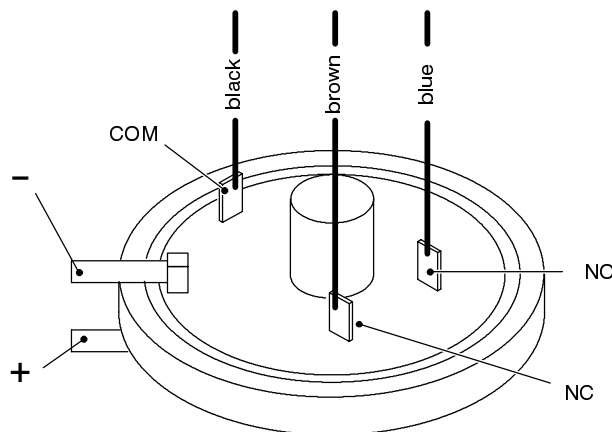
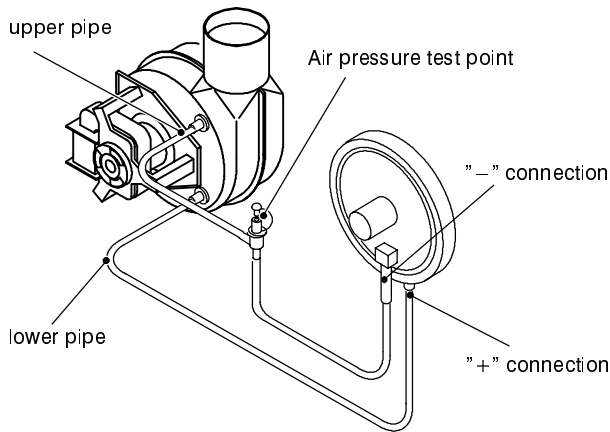
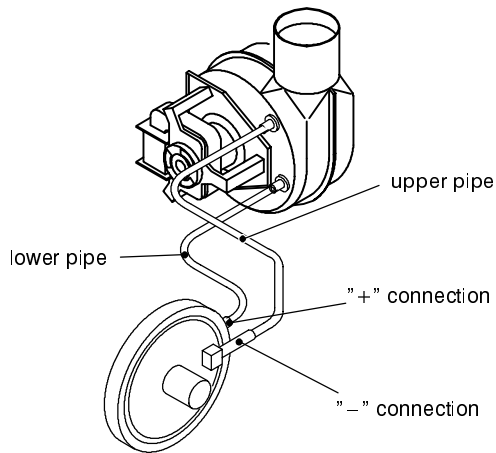

fig. 74
fig. 75a
fig. 75b
- 2a Disconnect the wires and check the electrical resistance between its connections (fig. 74).
- 2b Check the electrical resistance between its connections (fig. 74);
- 3 Connect the black wire (COM) and the brown wire (NC).
**Warning: reassembling the fan, refer to fig. 75a (models 24SE 24SER) or fig. 75b (model 28SE) to connect correctly the venturi device to the air pressure switch.**
**Warning:** reassembling the air pressure switch, refer to fig. 74 to connect correctly the wirings and to fig. 75a (models 24SE 24SER) or fig. 75b (model 28SE) to connect the venturi device to the air pressure switch.